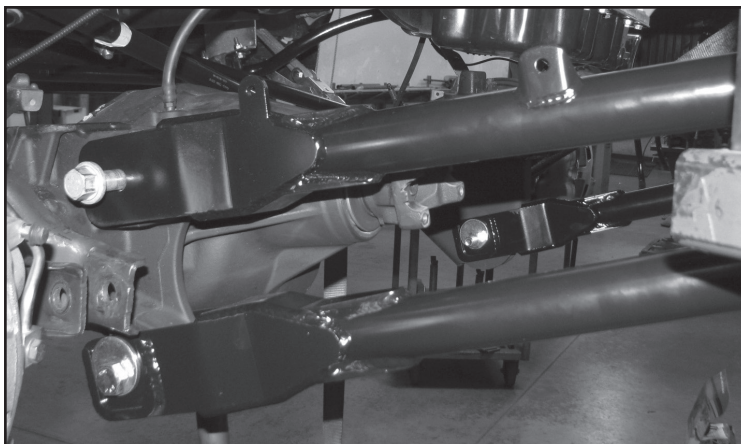

**FIGURE 13 - STEP 18**
18. Locate FT30650 (4-Link pocket). Install the bracket into the factory radius arm pocket using the supplied 3/4" x 1-1/2" bolts, nuts and washers through the original rear holes in the frame. Leave loose. **SEE FIGURE 13**